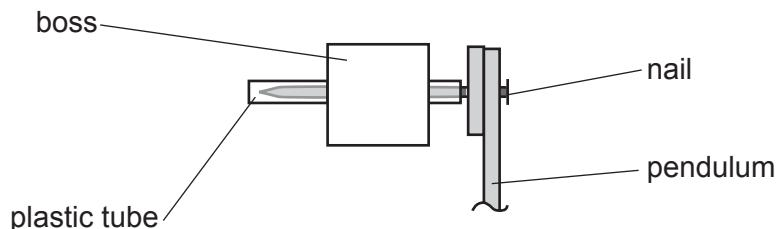
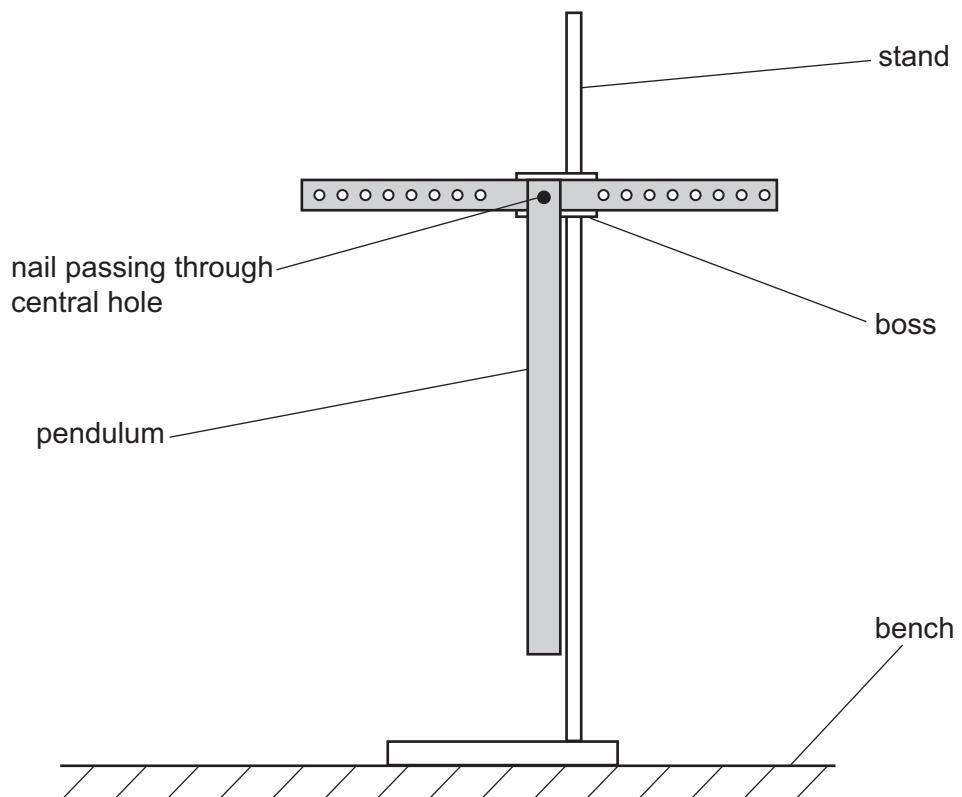

Fig. 1.1
Fig. 1.2
(a) (i) • Assemble the apparatus as shown in Fig. 1.1 and Fig. 1.2.
- Secure the tube and nail in the boss, as shown in Fig. 1.1.